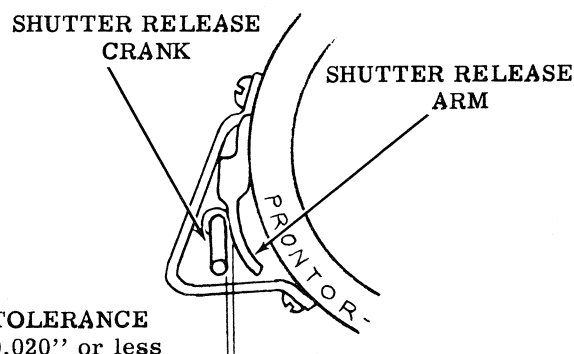
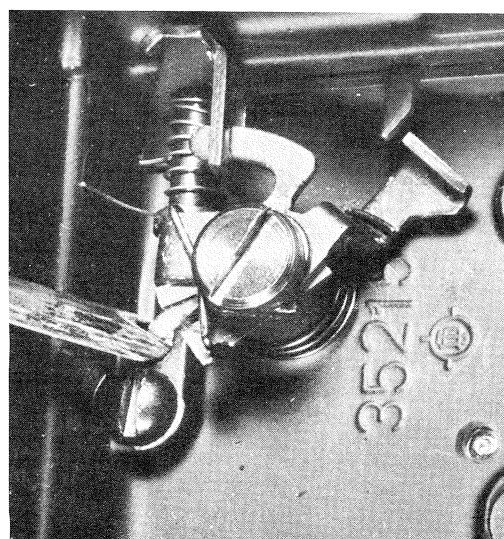

Figure 27. Shutter Release Adjustment
Figure 28. Shutter Release Crank-Inside Terminal Adjustment
b. Shutter Release Crank Adjustments. At this time it is possible to cock the shutter and release it by pressing on the shutter release crank (figure 27). Furthermore, play between the shutter release crank and the shutter release arm should not be more than 0.020 inch ; and after release of the shutter, the shutter release arm should have at least 0.010 inch travel before it stops or touches the shutter case. These adjustments are made by bending the shutter release arm or by changing the angle of relationship of the inside and outside terminal of the shutter release crank as shown in figures 28 and 29.